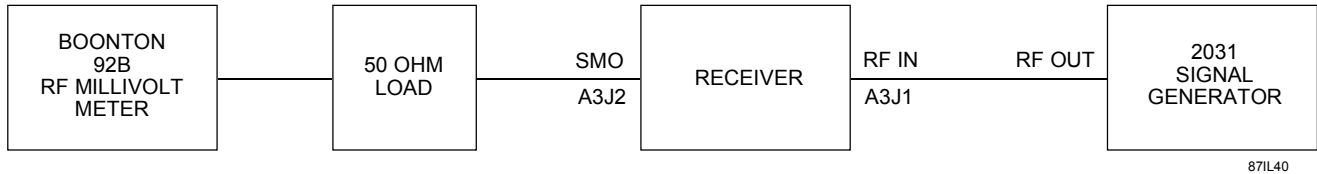

Figure 7-9. RF/IF Signal Path Performance Test Equipment Connection
1. Connect the WJ-8711A Receiver and test equipment as illustrated in *Figure 7-9*.